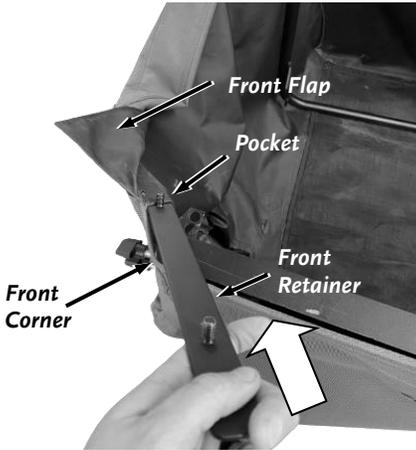

Figure 34
1. Insert one of the Front Retainers into the Front Corner canvas pocket. Slide the Front Retainers in at an angle to avoid the studs catching on the canvas as they are inserted (**Figure 34**).